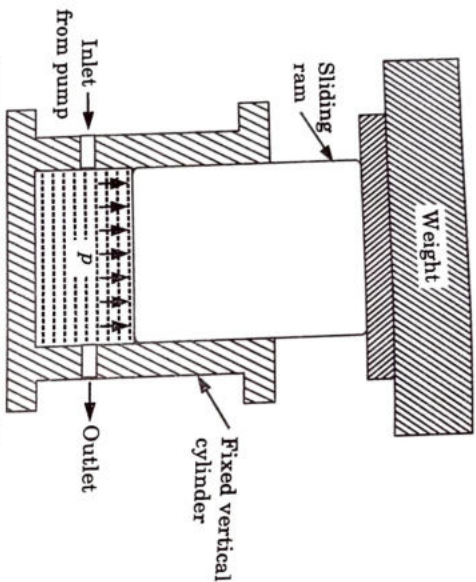

Fig. 3.22.1. Hydraulic accumulator.
1. Fig. 3.22.1 shows a simple hydraulic accumulator